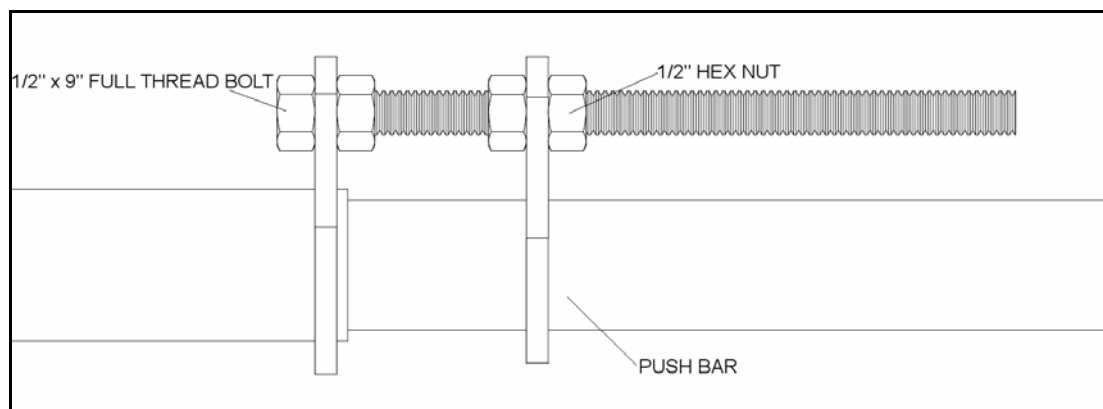
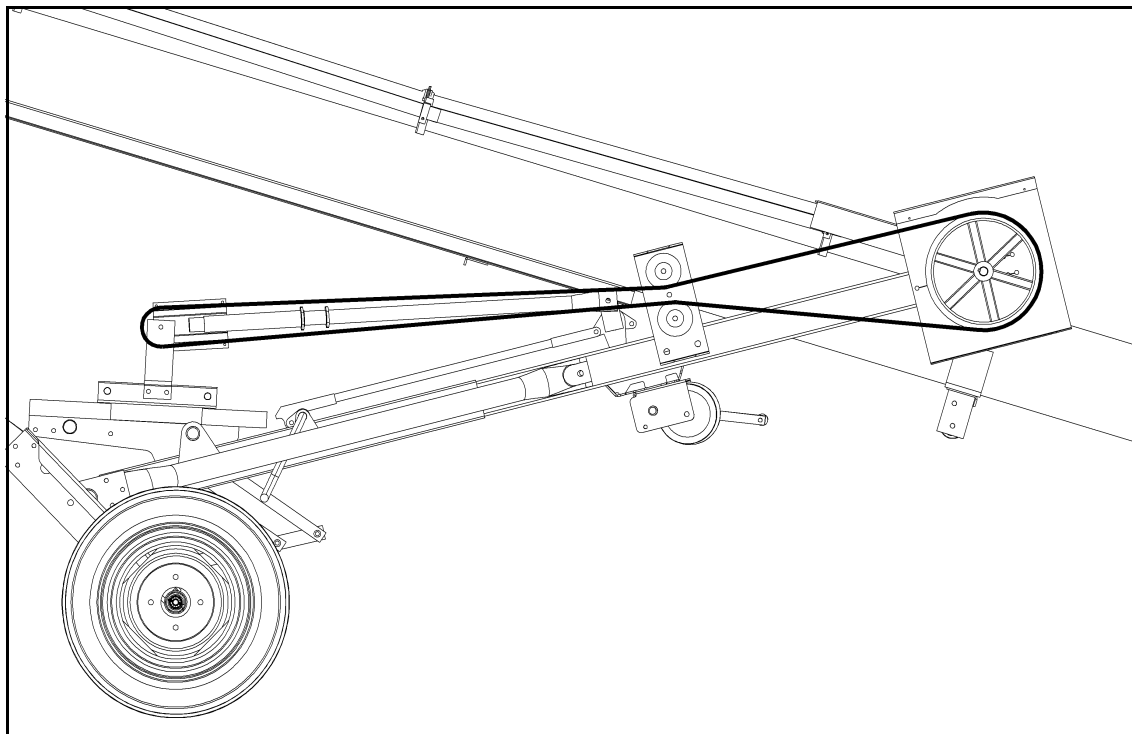

Figure 3.34
Figure 3.37
11. Use 1/2" x 10-1/2" bolt and three 1/2" hex nuts to set up push bar so that it can be adjusted as shown in Figure 3.34. Leave nuts loose until 16.
17. Install belts on pulleys (Figure 3.37). Adjust engaged tension on belts using push bar adjuster (Figure 3.34). Refer to Table 3.1 for length specifications.